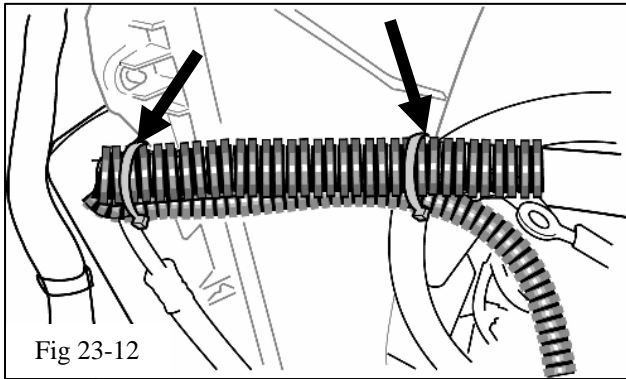

Fig 23-12
- (k) Continue routing the wire harness along the intercooler hose on the driver's side of the vehicle securing it with short lock ties (A5) as shown (Fig 23-12).